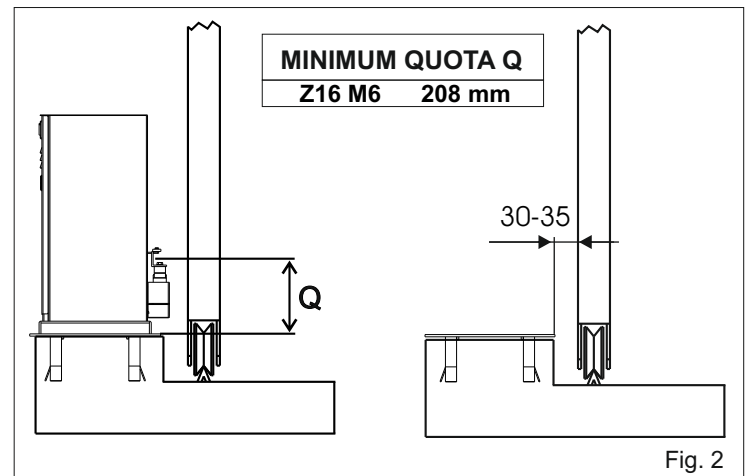
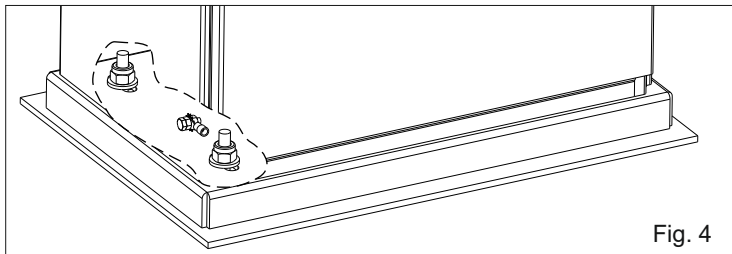

Fig. 2
Fig. 4
**2.3.** When concreting in the plate check that the plate is perfectly levelled and that the measurement of 30 - 35 mm given in Fig. 2 is followed.
4.1. Fix the motor-reducer to the foundation plate adjusting the side position (Fig. 4) considering the mentioned measurements in Fig. 2.